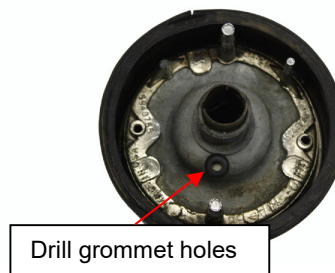

Figure 2
3. For each taillight housing, drill 1 – 5/16" hole on the bottom surface of the taillight housing. (See Figure 2) The exact location of each hole is not critical. Then install provided rubber grommet into the drilled hole. One method to simplify installation is to pinch grommet, insert protruding edge into the hole, then use a small flat blade screwdriver to push/work the remaining edge through the hole.